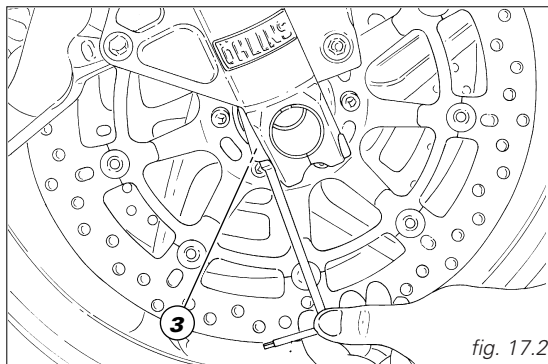

fig. 17.2
- 3) (fig. 17.2) to adjust compression damping.
To reach the adjuster (3), insert a 3-mm Allen wrench into the hole as shown in fig. 17.2.